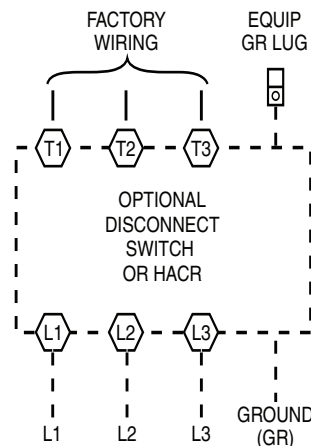

Fig. 28 — Power Wiring Connections
Size wire based on MCA (Minimum Circuit Amps) on the unit informative plate. See Fig. 28 for power wiring connections to the unit power terminal blocks and equipment ground. Maximum wire size is 2/0 AWG per pole.
3. Install power lines to terminal connections as shown in Fig. 28.